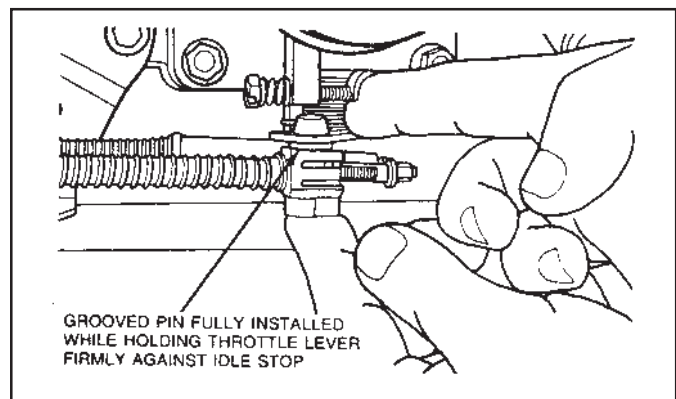

Figure 29
- 7.13 Insert grooved pin back into grommet. (See Fig. 29.)